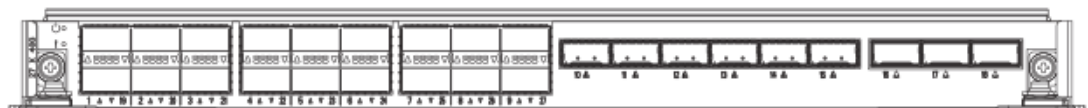

FIGURE 7 27x40 GbE line card
- 27x40 GbE line card modules — In the dual-port section, the top row of ports is numbered from 1 through 9 and the lower row of ports is numbered 19 through 27 from left to right when installed on the switch. The single ports on the right of the switch are numbered 10 through 18 from left to right. Refer to Figure 7.